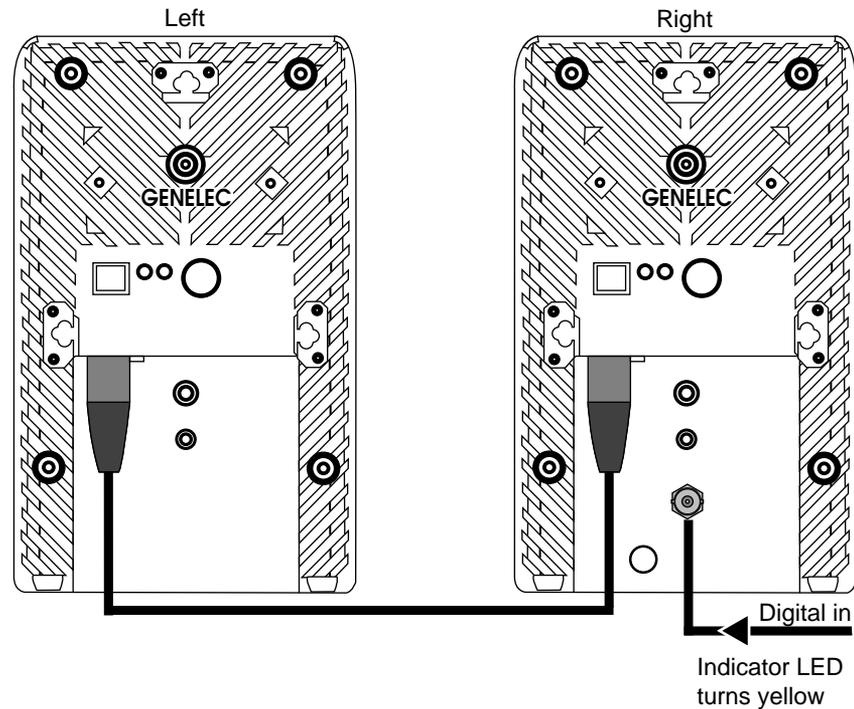

Figure 3-14 Speaker Pair Connection
3. Connect the other end of the BNC audio cable to the back of the right speaker. (See Figure 3-14.)